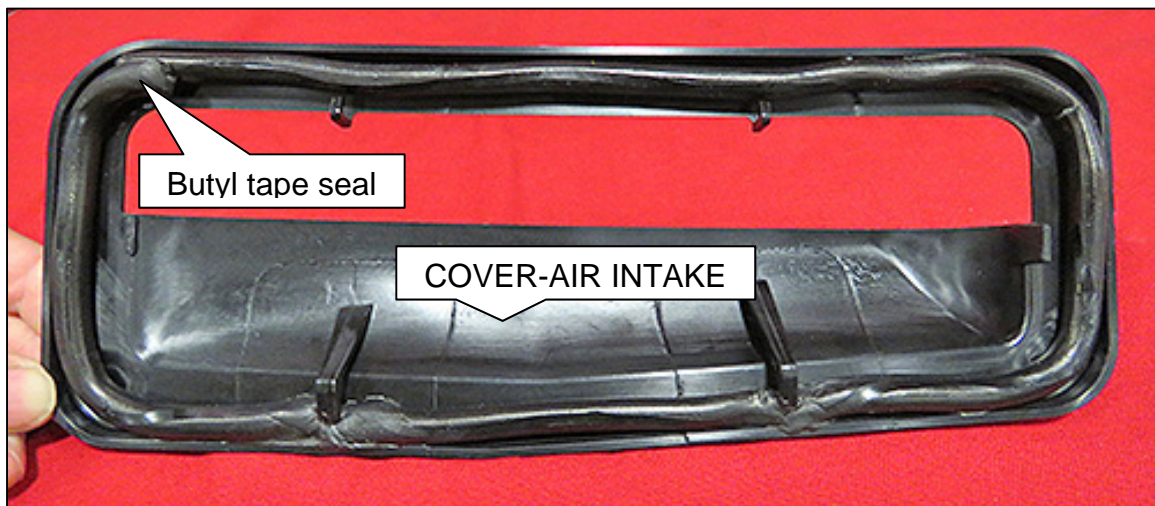

Figure 5
5. Apply SEALER – REAR COM (Butyl tape seal) to the COVER-AIR INTAKE as shown in Figure 5 (see the **PARTS INFORMATION** on page 7).